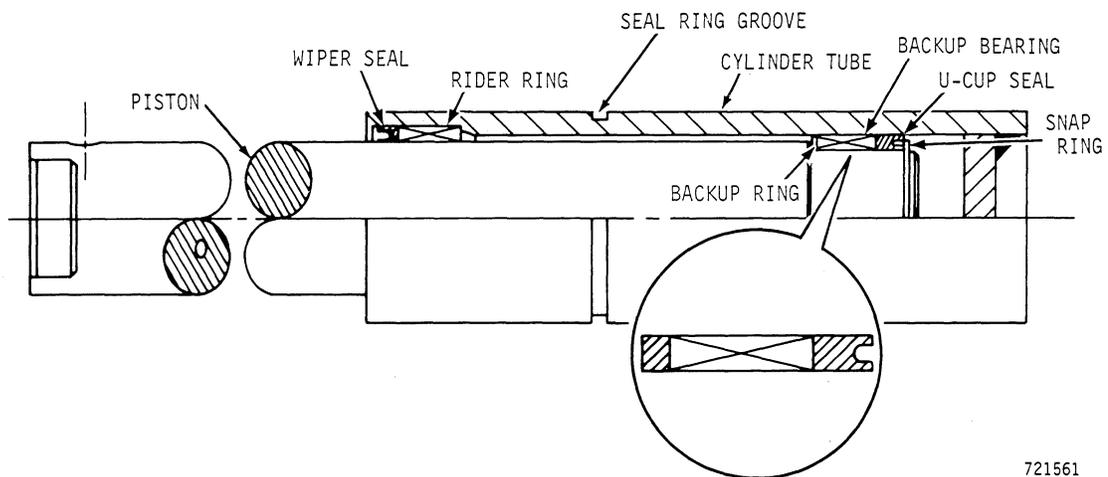

Figure 60 - Track Adjuster, Cross Section
piston. Install the U-cup seal as shown in Figure 60.
5. A special tool can be fabricated as shown in Figure 9 for installation of the wiper seal. This seal is a press fit. Install the rider ring, followed by the wiper seal into the cylinder tube. Drive the wiper seal into the tube with lip facing out, Figure 60.